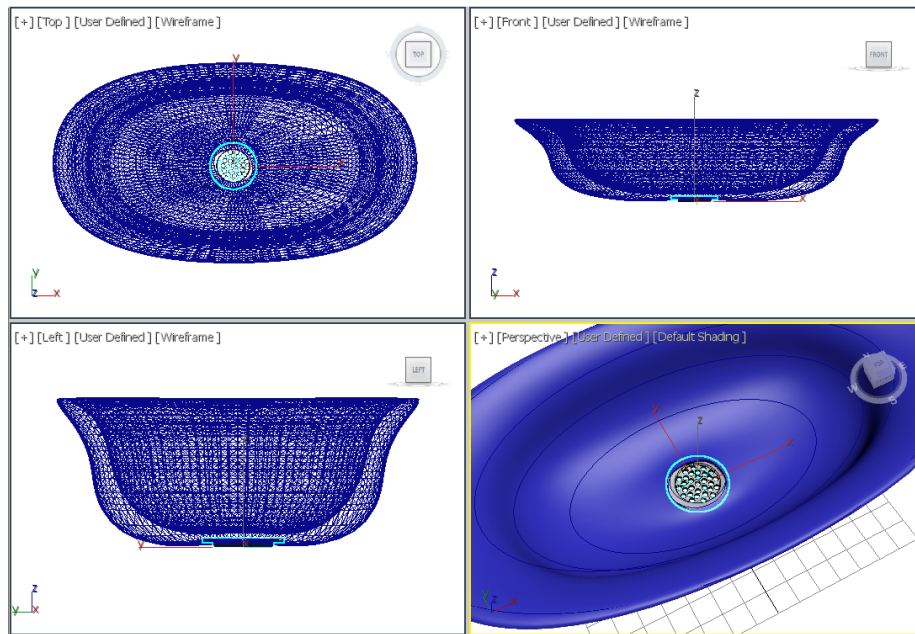

Figure 15-68 A sieve created and aligned in viewports
10. Modify the color of sieve to light grey and then unhide *washbasin* in the viewports. Next, align *sieve* in the viewports, as shown in Figure 15-68.